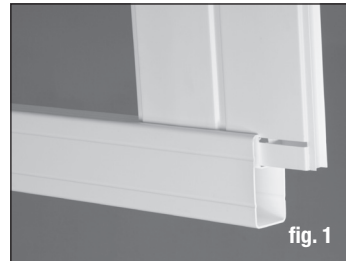

fig. 1
- Take one of the rails and align one of the pickets with the channel in the rail. Slide the picket into the channel (fig. 1).